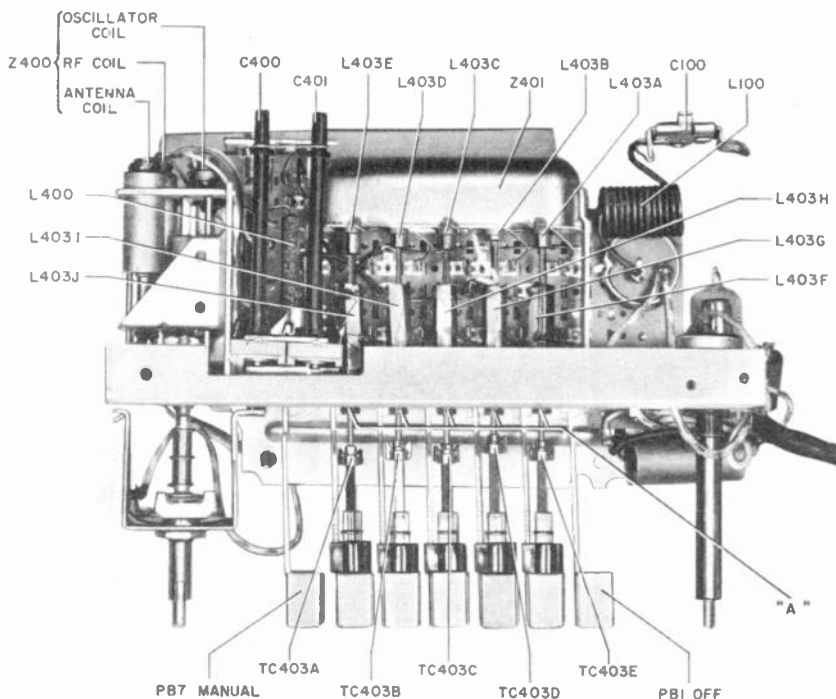
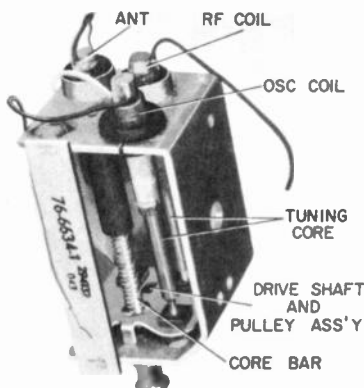

FIGURE 1
FIGURE 2
If either the antenna coil assembly (Z401 in Fig. 1) or one of the oscillator coils (L403F-J) has been replaced, it may be necessary to adjust that portion of the tuning assembly to obtain optimum results. The tuning range of each push button circuit is as follows:
2. Depress the push button and adjust the slotted tuning core shaft (TC403A-E in Fig. 1) for maximum output.
3. The threaded shaft and nut, in conjunction with the cup and coil spring at the base of each oscillator coil (see "A" in Fig. 1), afford a means of varying the relative position between any oscillator coil and its associated
1. Depress the "Dial" push button and set the tuning unit to the extreme high frequency position as in Fig. 2.
1. After replacement of the coil or core, set the core so its leading edge (farthest from the core bar) is inside the coil *form* but not yet into the coil with the core bar in its extreme "out" position (as in Fig. 2). Set the generator to 1605 KC using a dummy antenna, and adjust the antenna padder (manual tuning C401—Figs. 1 and 3) for maximum signal.